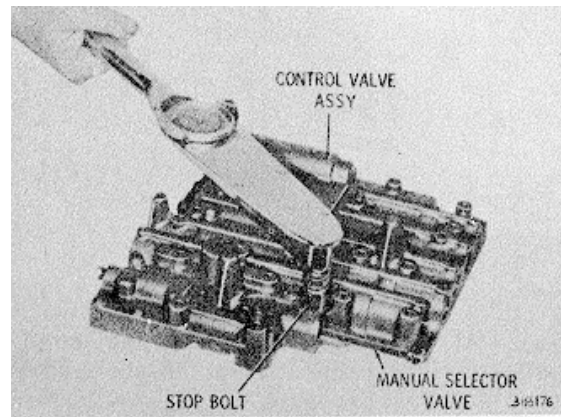

Fig. 6-8 Tightening selector valve stop bolt .
(29) Valve 53 must be positioned so that its flat side is upward (when assembly is positioned as in fig. 6-8).
(30) Install stop bolt 64 (B, foldout 16) into control valve assembly. The flat end of the bolt must align with the flat side of the selector valve (fig. 6-8). Tighten the stop bolt to 36 to 43 pound feet (49 to 58 Nm) torque.